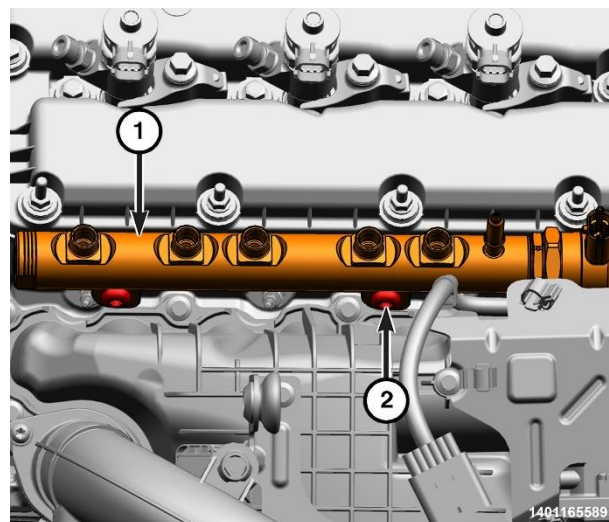

Figure 128 – Left Fuel Rail
66. Using the Remover-Installer, Fuel Rail Bolt 2025400090, remove the left fuel rail bolts (2) and the left fuel rail (1) (Figure 128).